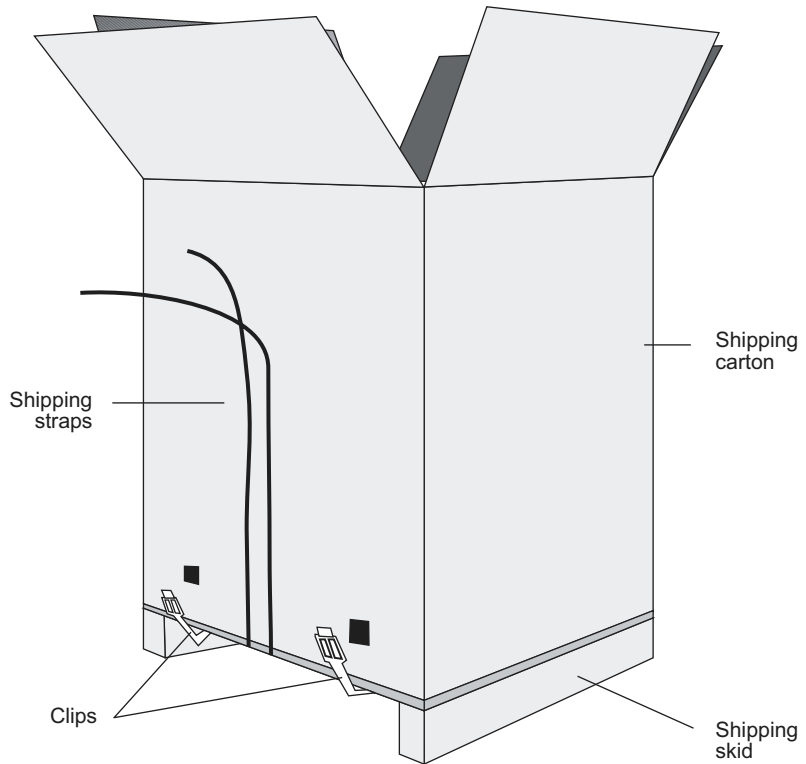

Figure 2-1 Packaged ERX-1400 series
The ERX-1400 series come boxed, bolted, and strapped to a skid. See Figure 2-1.
- 1** Cut the two straps that secure the carton to the skid. See Figure 2-1.
- 4** Unlock the four plastic clips that hold the box to the skid by squeezing them in their center and pulling out. See Figure 2-1.